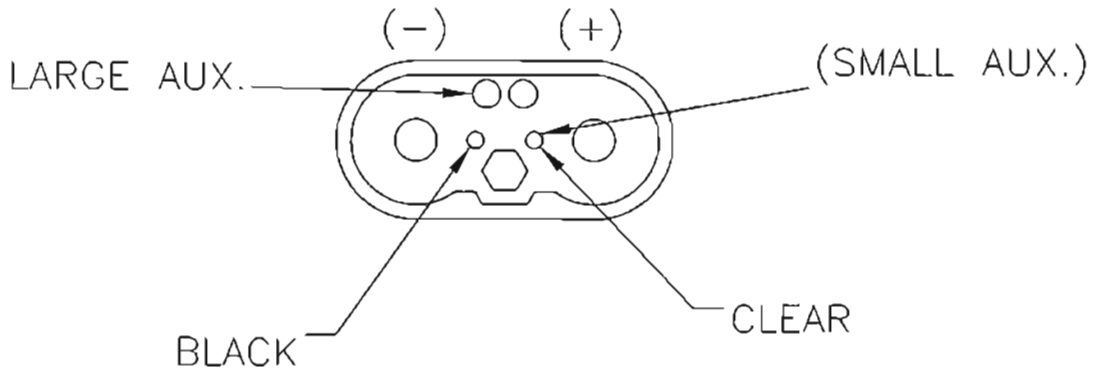

Fig. 3B
- Assemble the large auxiliary pins into the connector as shown in Fig. 3B